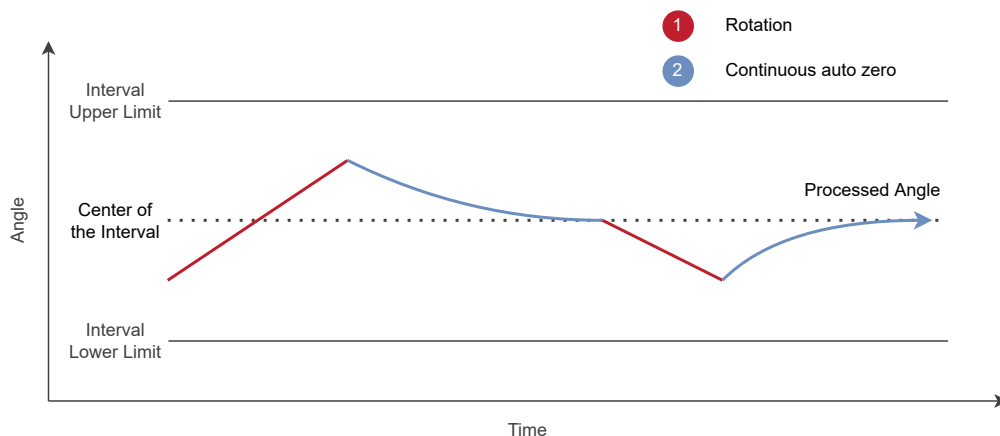

Figure 5.5: Continuous Auto-zero Behaviour
- > **Continuous:** The auto-zero filter will always be active and will cause the final angle to continuously move towards the center of the current interval. It is recommended to use a high **auto-zero beta** value to allow the final angle to move between intervals during slower rotations. This mode applies to devices without a mechanical ratchet, or with haptic ratchet effects. This behaviour can be viewed in Figure 5.5